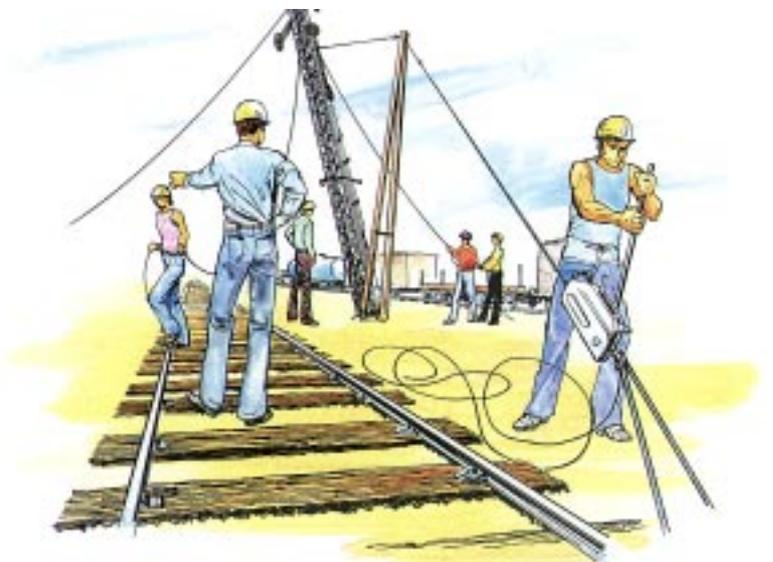

Fig. 11
- lifting and removal of pylons and signals (Fig. 11)